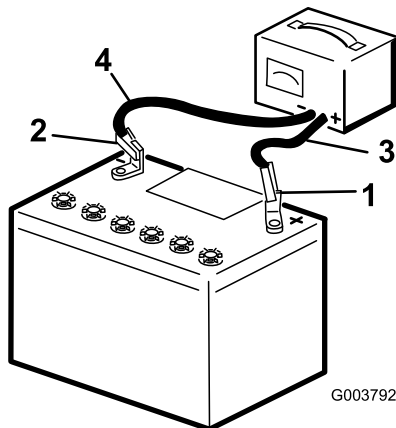

Figure 91
3. Connect the positive lead of the battery charger to the positive battery post (Figure 91).
4. Connect the negative lead of the battery charger to the negative-battery post (Figure 91).
6. When the battery is fully charged, unplug the charger from the electrical source, then disconnect the charger leads from the battery posts (Figure 91).